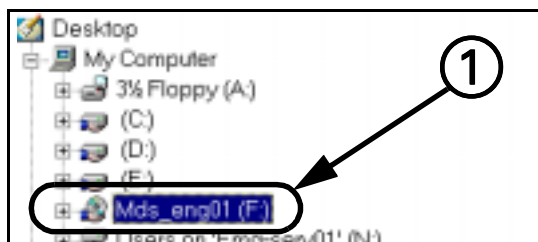

Figure 15-8 Windows Explorer
5. Verify that there is a hand graphic below CDROM icon (see ① in Figure 15-8).